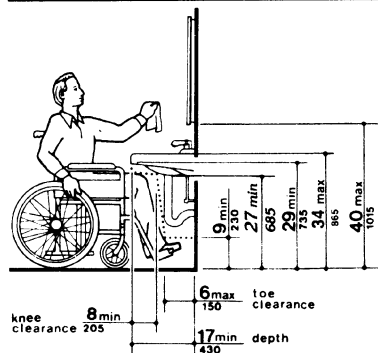

Fig. 31
**4.19.2 Height and Clearances.** Lavatories shall be mounted with the rim or counter surface no higher than 34 in (865 mm) above the finish floor. Provide a clearance of at least 29 in (735 mm) above the finish floor to the bottom of the apron. Knee and toe clearance shall comply with Fig. 31.